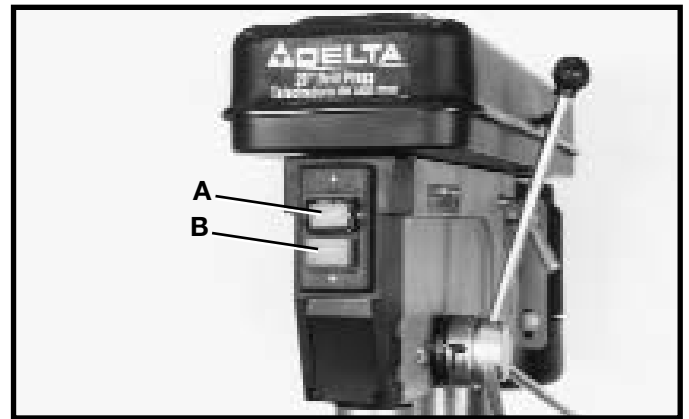

Fig. 23
The switch is located on the front of the drill press head. To start the machine, press the start button (A) Fig. 23, and to stop the machine, press the stop button (B).